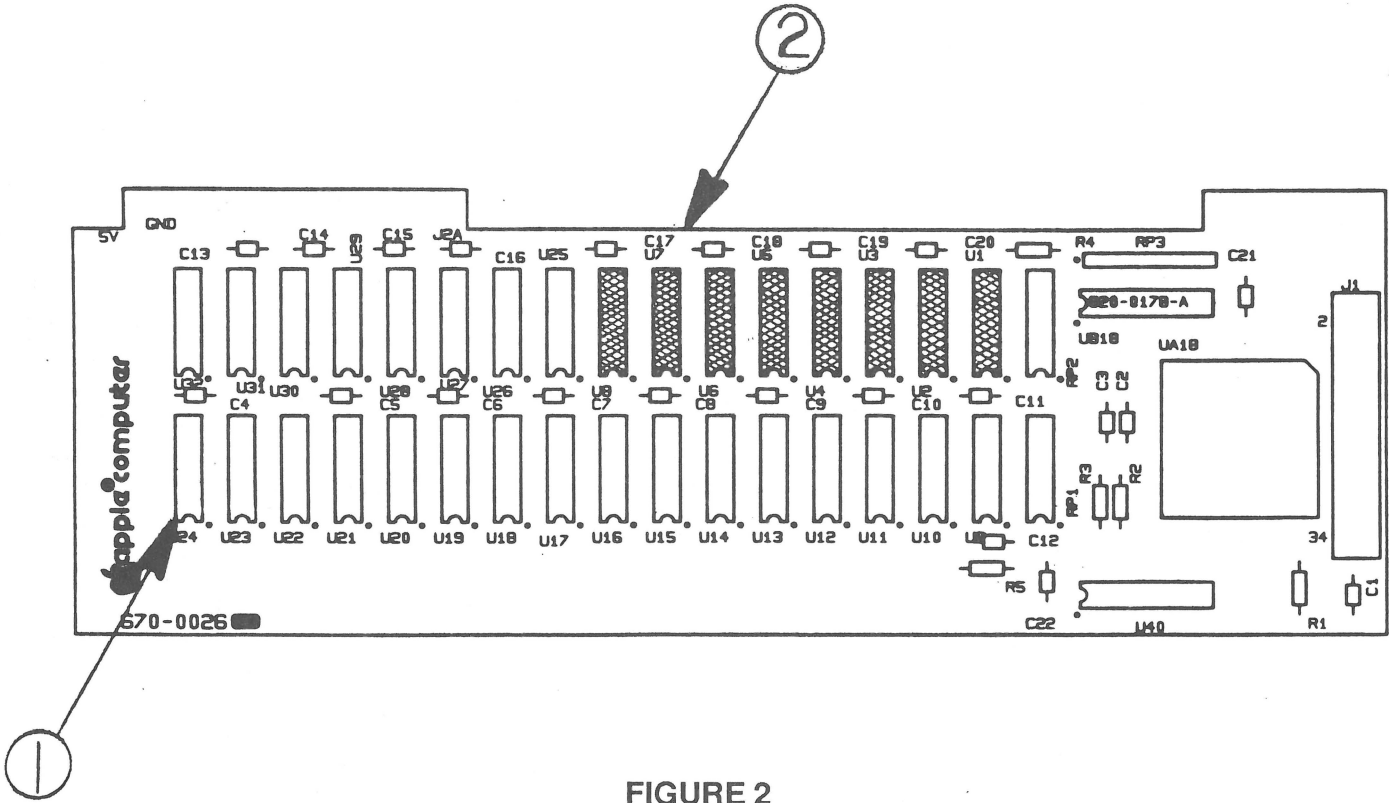

FIGURE 2
- IPL.5 Memory Expansion Card (Figure 2)
□ **APPLE IIc – MEMORY EXPANSION CARD (Figure 2)**
Note: The eight ICs that are shadowed in Figure 2 are soldered to the Memory Expansion Card. The 24 sockets on the card can be filled with 256K RAM ICs for memory expansion.